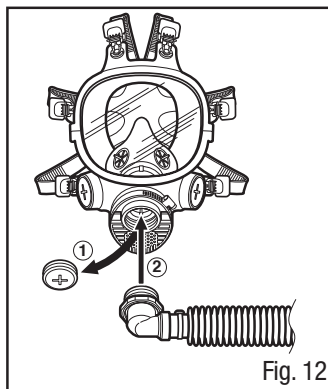

Fig. 12
1. Remove Full Face Plug 7890 and screw in 3M™ Breathing Adapter Tube W-3264 into center opening (Fig. 12).